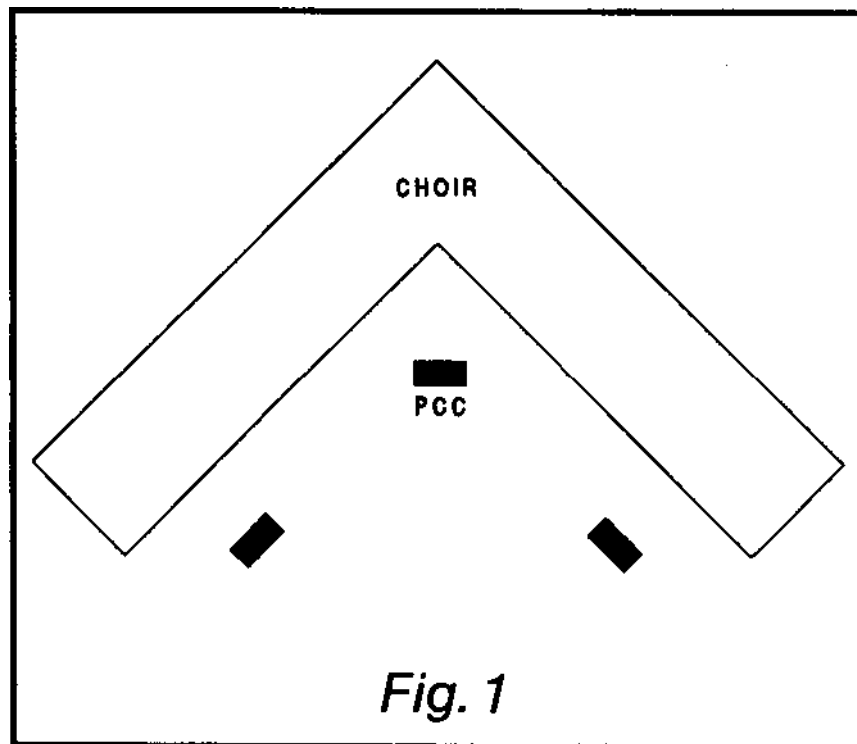

Fig. 1. Miking a children's choir with PCC-160s.
*The children’s choir was miked with three PCC-160s on the floor, 3 feet from the ensemble (Fig. 1). According to John Royer, the children sounded close-miked, and leakage was no problem.